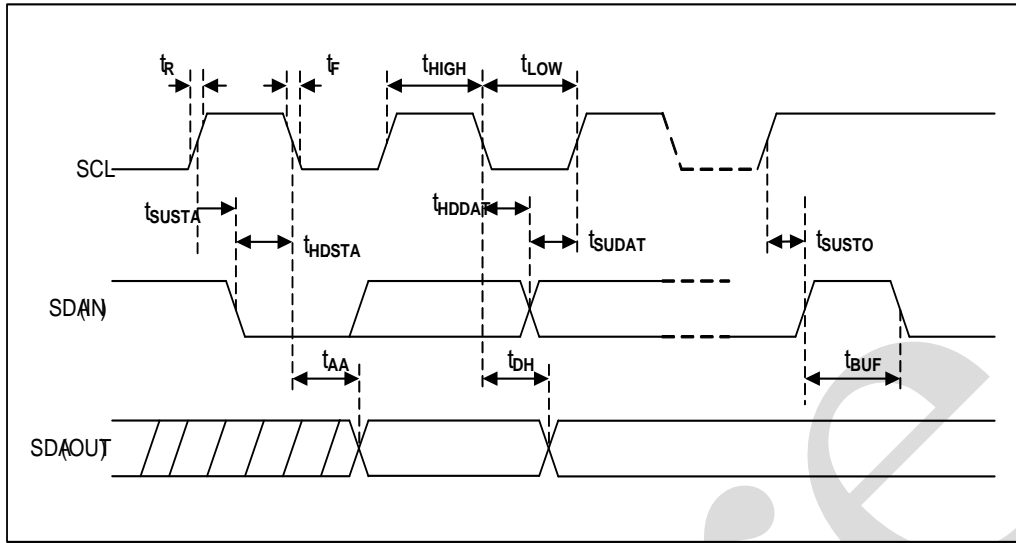

Figure 4-5
4.1.7、Bus Timing(see to Figure 4-5).